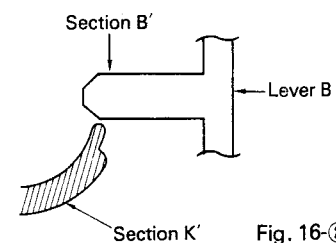

Fig. 16-2
- When gear "K" turns it also pushes the lever "B", "B" part. The "B" part turns arm "F" and arm "G" counter-clockwise and advances head base with the arm "G", "G" part. (Fig. 16-2, 5)